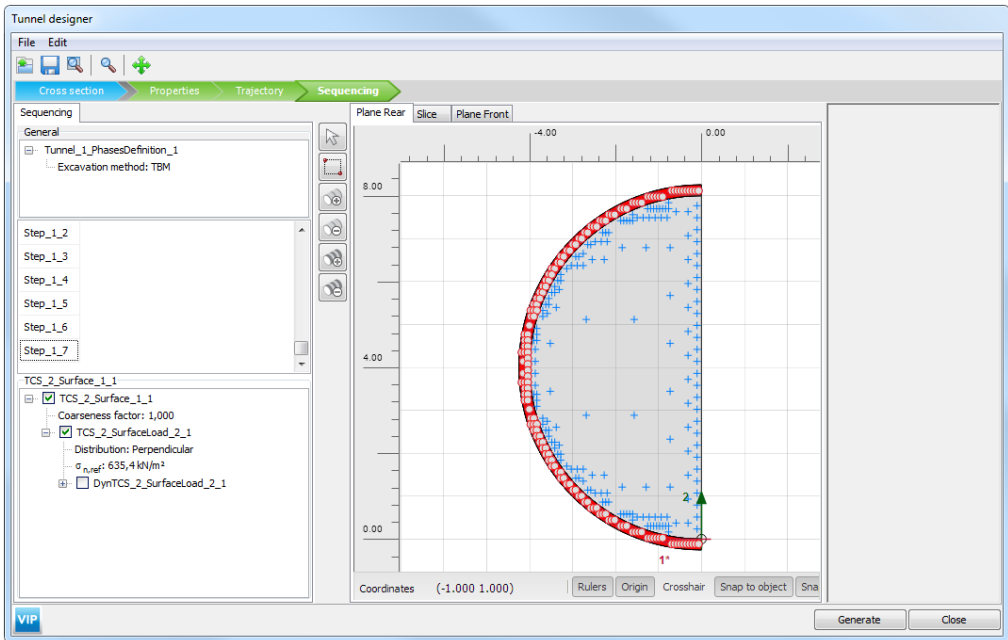

Figure 5.16 *Plane Rear* tabsheet in the *Tunnel designer* Step_1_7
- Select the *Plane rear* tabsheet and select the outer surface to define the jack thrusting against the final lining. In the *Selection explorer*, activate the surface load and select the *Perpendicular* option for the distribution with $\sigma_{n,ref} = 635.4$ (Figure 5.16).